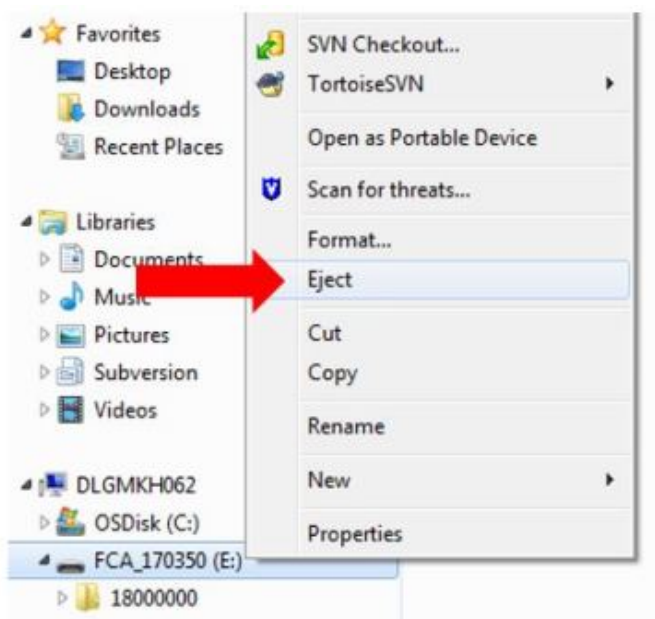

Fig. 9
19. Perform the following steps to properly eject the USB flash drive Fig. 9: